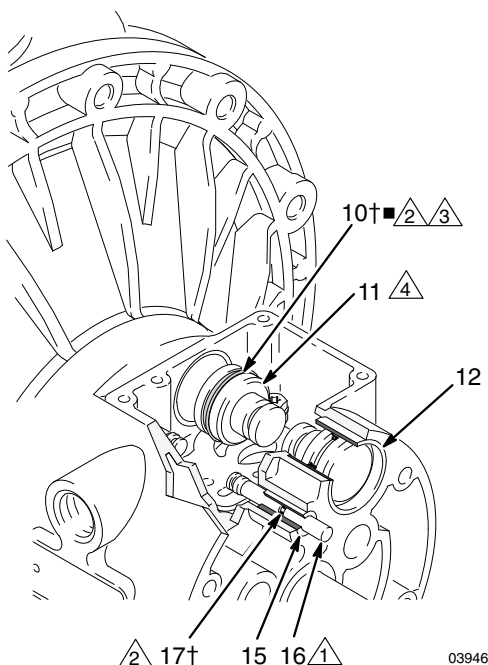

FIG. 8
4. Pull the two actuator pistons (11) out of the bearings (12). Remove the u-cup packings (10) from the pistons. Pull the pilot pins (16) out of the bearings (15). Remove the o-rings (17) from the pilot pins. See Fig. 8.
6. Inspect the bearings (12, 15) in place. See Fig. 8. The bearings are tapered and, if damaged, must be removed from the outside. This requires disassembly of the fluid section. See page 22.
4. Install an o-ring (17) on each pilot pin (16). Grease the pins and o-rings. Insert the pins into the bearings (15), **narrow** end first. See FIG. 8.
5. Install a u-cup packing (10) on each actuator piston (11), so the lips of the packings face the **narrow** end of the pistons. See FIG. 8.
6. Lubricate the u-cup packings (10) and actuator pistons (11). Insert the actuator pistons in the bearings (12), **wide** end first. Leave the narrow end of the pistons exposed. See FIG. 8.